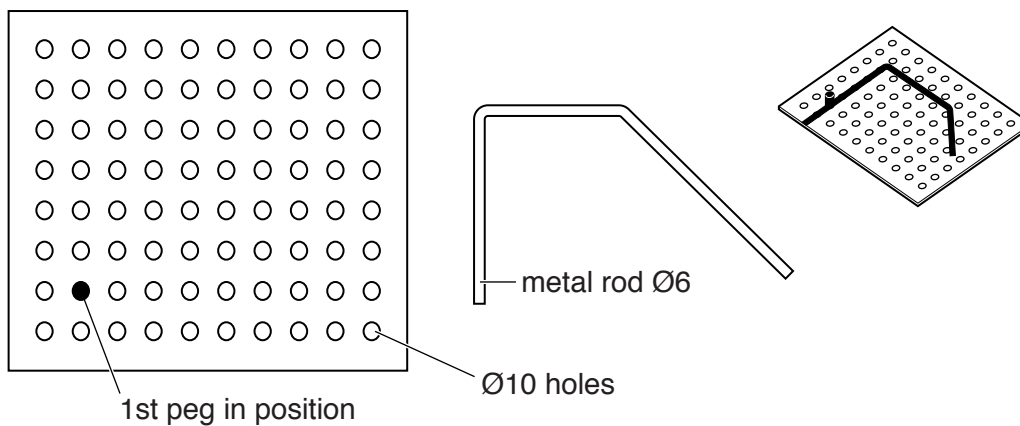

Fig. 8
- 9 Fig. 8 shows a bending jig and metal rod that has been bent to shape.
Draw on the base in Fig. 8 to show the positions of **three** additional $\text{Ø}10$ metal pegs that would enable the $\text{Ø}6$ metal rod to be bent to the shape shown in Fig. 8.